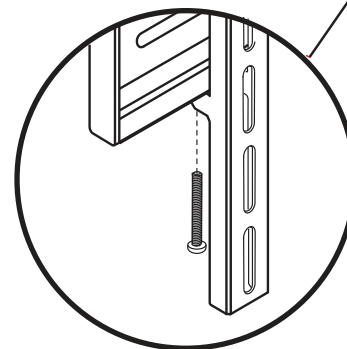

Fig. 4c
3. As the TV swings down and the lower part of the brackets come in contact with the wall mount plate, secure each bracket to the Mount plate by pulling down on the attached ribbon (one bracket at a time) to open the spring-loaded lock (Fig. 4c). Release each ribbon to close and secure the lock mechanism. Test each lock by pulling gently upward from the bottom of the TV. If the lock is secure the TV will not pull upward.